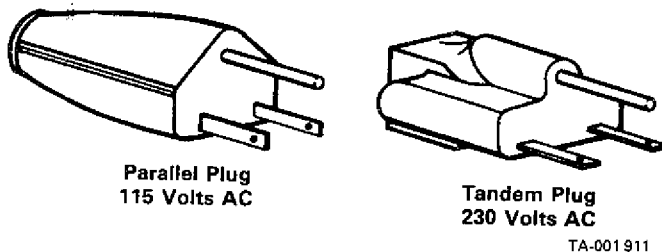

Figure 3-2. Electrical Input Connection Plugs
A. 115 Volts AC And 230 Volts AC Models (Figure 3-2)